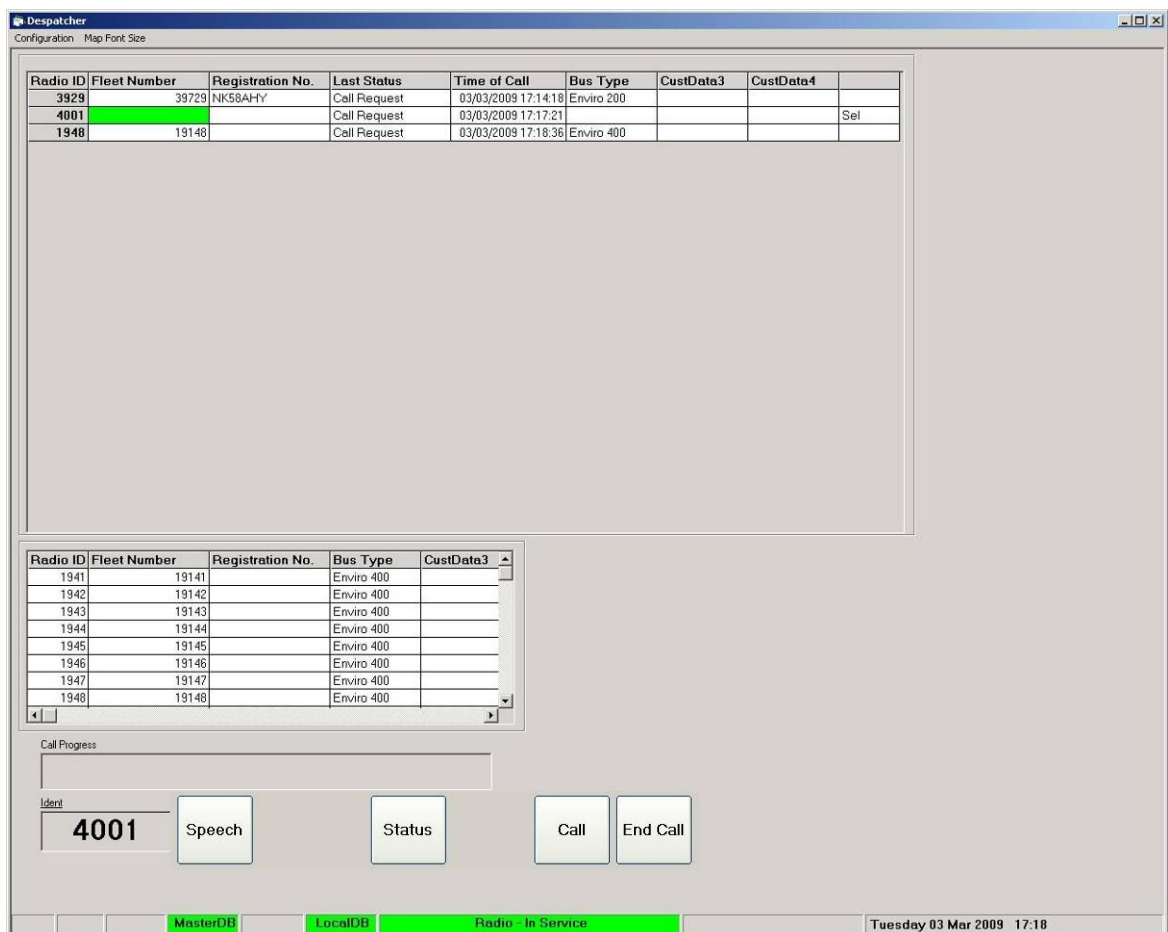

Fig. 2. Call Stack appearance
4.1.2 **Incoming Call Selection** may be made using the Up/Down arrow keys to select the call from the call stack followed by pressing the **F1** function key. Alternatively the operator may use the mouse to control the screen icon on to the desired caller in the Call stack (**Fig.2**). After selection, at pressing the **F1** key the Ident will be copied to the **Outgoing Call** area at the bottom of the screen in the “**Ident**” box and the call will be set up with the caller. Similarly this action can be performed by placing the mouse icon on the “**Call**” box and clicking the left hand mouse button. Successful establishment of the call will be indicated by the word “**Connected**” being displayed in the “**Call Progress**” dialogue box. The Operator will then be able press the PTT switch on the microphone and commence speaking with the caller.